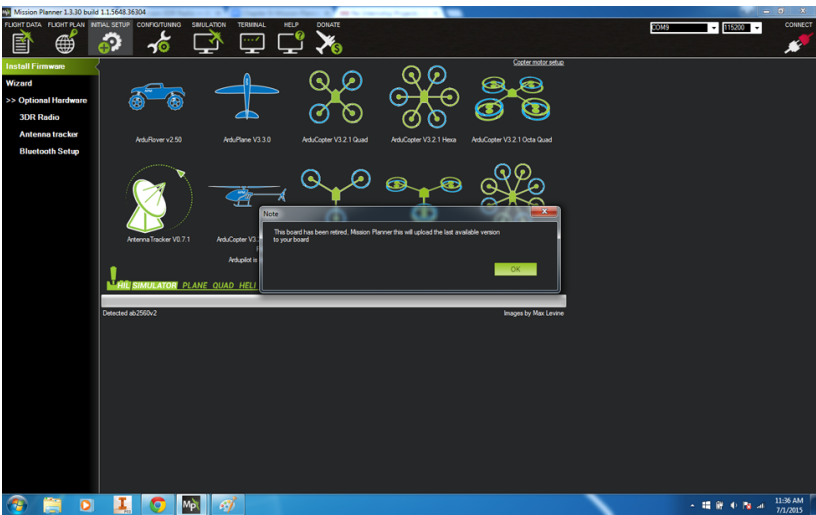

Figure 9-3. Mission Planner automatically finds the most recent firmware version supported by your APM.
- f. Mission Planner will locate the most recent version of the APM firmware that is available for your hardware and start the update process. Click OK to proceed (see Figure 9-3).